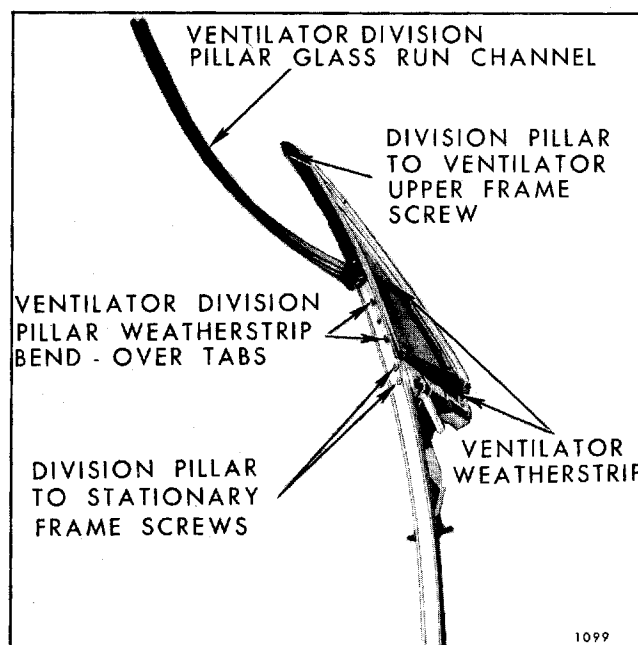

Fig. 7-143—Rear Door Ventilator Assembly - 68069-68169 Styles
2. Remove ventilator division pillar glass run channel strip assembly by disengaging lower end and pulling strip upward (Fig. 7-143).
3. Remove division pillar to ventilator stationary frame attaching screws (Fig. 7-143).
4. Remove division pillar to ventilator upper frame (and rubber bumper) attaching screw (Fig. 7-143) and separate ventilator frame and division channel.
6. Straighten division pillar weatherstrip bend-over tabs (Fig. 7-143) and remove weatherstrip.